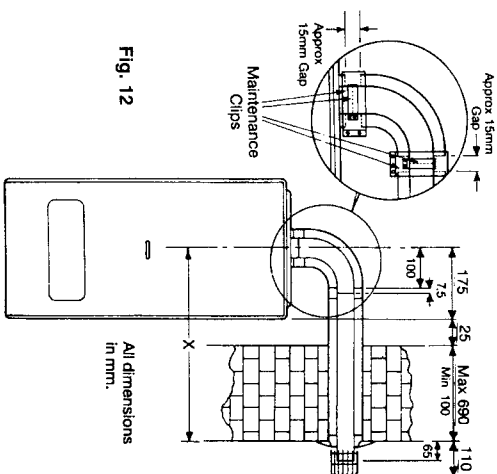
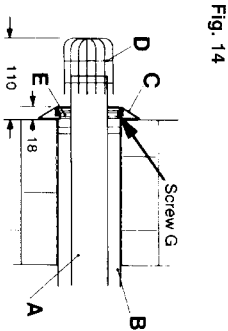

Fig. 12
Fig. 14
Refer to figures 12 - 15.
Hang the boiler on the bracket. Adjust the boiler sideways to its correct position. Locate the small maintenance clip on to the flue elbow (fig 12) and assemble onto the flue outlet on the top of the boiler. Twist the flue bend to the outlet direction required, and tighten the maintenance clip to secure the flue bend in place. Carefully level across to check that the hole through the wall is at the same level as the flue bend.
Measure carefully from the actual face of the outside wall to the centre of the flue bend. (Dimension X on Figs 12 & 13.)
NOTE: The two tubes must be separated by removing screw G (fig 14) before cutting. The outer air tube should also be shortened by the same amount to allow a gap for easy working (see inset on fig 12)
- 5.5.9 Ensure inner and outer terminal tubes are firmly fitted together with screw G (fig 14) Push the terminal tubes through the wall until the face of the outer tube protrudes 8mm from the face of the wall (fig 14). The terminal grill (D) will then protrude 110mm from the wall) face.
- 5.5.16 Check also that the outer end of the flue projects as indicated in fig 14.
- 5.5.19 Seal the peripheral gap around the outer tube with cement or mastic and slip the cosmetic flexible plastic collar (fig 14) (item C) into groove on the pipe.
- 5.5.39 Referring to fig 12 fit the large maintenance clip into position and secure clip screws.
- 5.5.27 Referring to fig 12 assemble a small maintenance clip on the outlet of the boiler flue bend. Push the inner flue tube into clip and tighten clip screws.
- 5.5.29 Referring to fig 12 fit the large maintenance clip into position and tighten clip screws.
NOTE: The two tubes must be separated by removing screw G fig 14 before cutting.